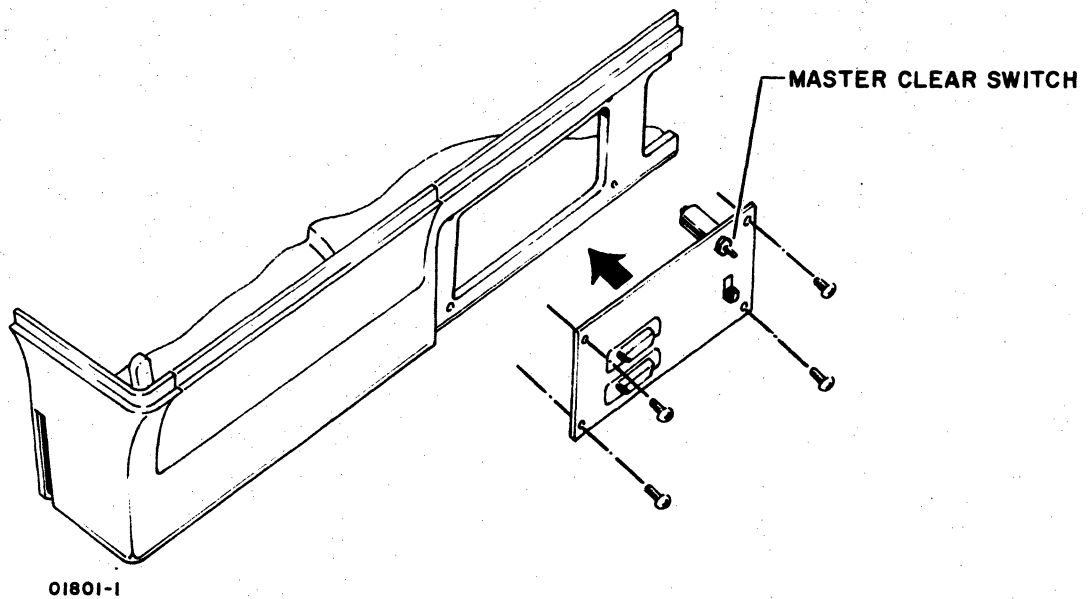

Figure CRT7. MASTER CLEAR Switch
- 2) Remove four mounting screws holding data entry panel to chassis (figure CRT7).